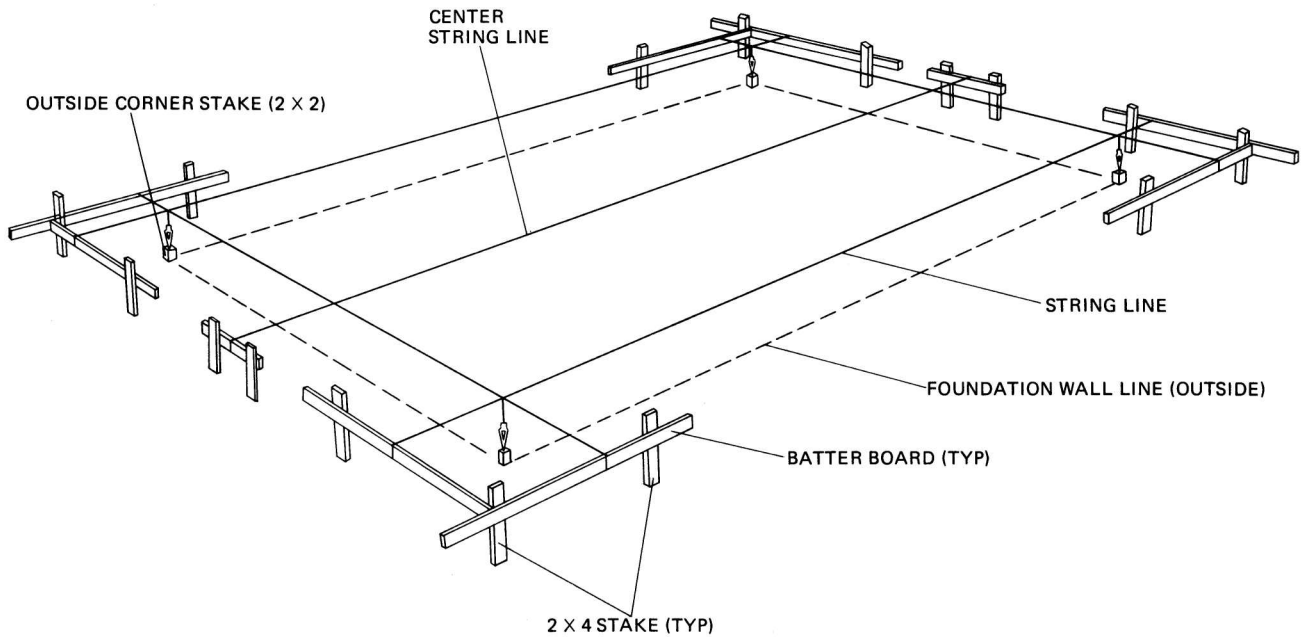
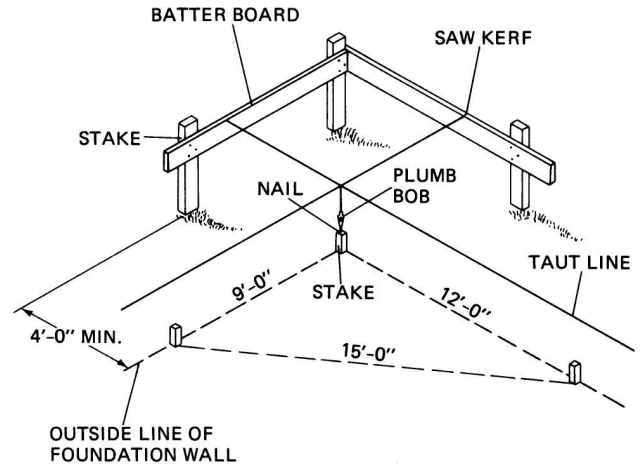
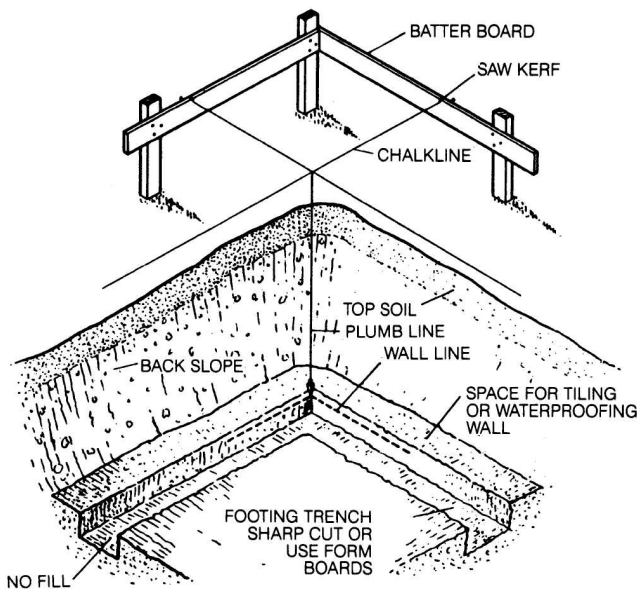

Fig. 2-4 Staking out a basement. (American Plywood Association.)
Fig. 2-7 Staking and laying out the house. (Forest Products Laboratory.)
Fig. 2-6 Note the location of the nails on the batter board. (U.S. Department of Agriculture.)
3. Lay out the foundation lines. Figure 2-4 shows the simplest method for locating these. Locate
4. After the corners are located and squared, drive three 2×4 stakes at each corner, as shown in Fig. 2-4. Locate these stakes 3 feet and 4 feet outside the actual foundation line. Then nail 1×6 batter boards horizontally so that their top edges are all level and at the same grade. Levelness will be checked later. Hold a string line across the tops of opposite batter boards at two corners. Using a plumb bob, adjust the line so that it is exactly over the tacks in the two corner stakes. Cut saw kerfs $\frac{1}{4}$ inch deep where the line touches the batter boards so that the string lines may be easily replaced if they are broken or disturbed. Figure 2-6 shows how carpenters in some parts of the country use a nail instead of the saw kerf to hold the thread or string. Figure 2-7 shows how the details of the location of the stake are worked out. This one is a 3-4-5 triangle, or 9 feet and 12 feet on the sides and 15 feet on the diagonal. If you use 6, 8, and 10 feet, you get a 3-4-5 triangle also. This means that